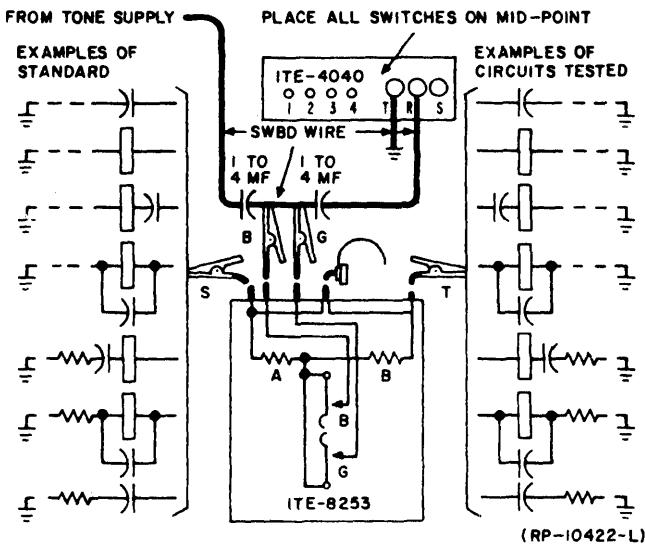

Fig. 5 - Comparison Check of Impedance or Reactance (Par. 11)
11.02 The general method is similar to that for contact protection except that tone is connected to the contact protection circuit test set. See Figure 5.
11.05 The adjustable shunt resistance shown in Figure 5 is to reduce the level of the tone (with an acceptable balance) to the lowest volume the noise level in the terminal room will permit, in order to preserve the sensitivity of the operator's ear.
11.06 The connections should be made as indicated in Figure 5.